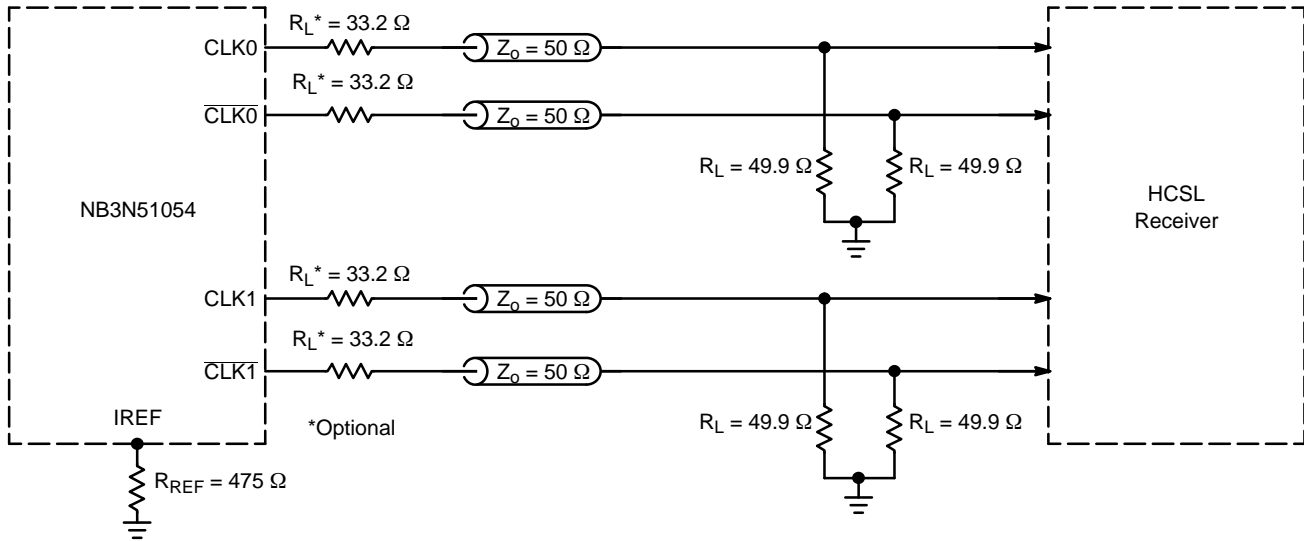
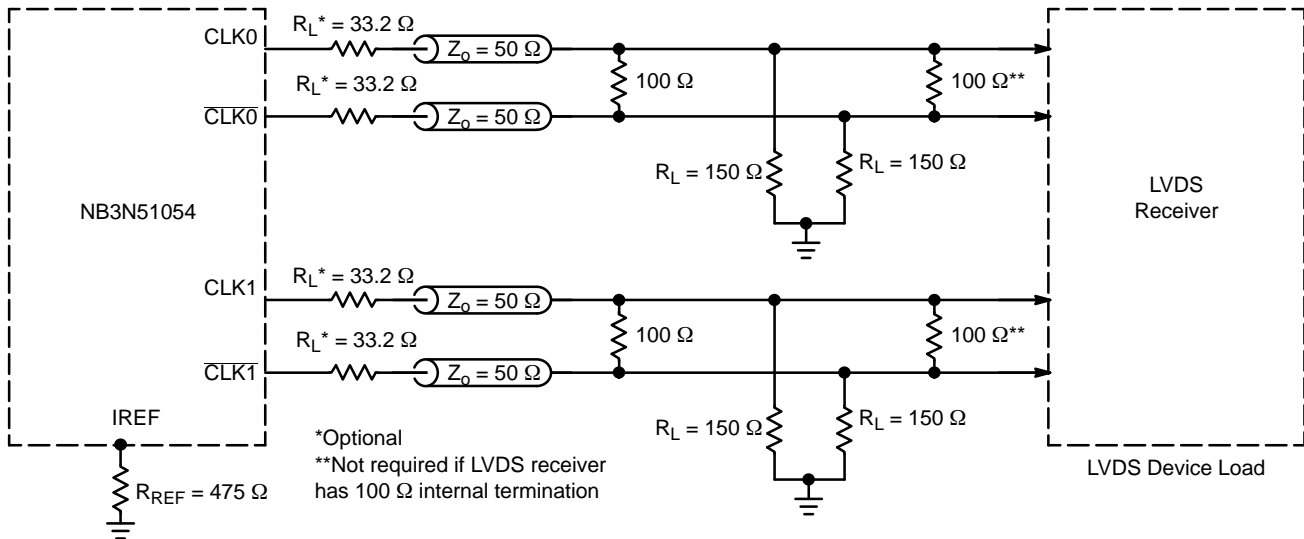

Figure 6. Typical Termination for HCSL Output Driver and Device Evaluation
Figure 7. Typical Termination for LVDS Device Load
- Measurement taken with outputs terminated with RS = 33.2 Ω, RL = 49.9 Ω, with test load capacitance of 2 pF and current biasing resistor set at RREF = 475 Ω. See Figure 6. Guaranteed by characterization.
9. Measurement taken from differential output on single-ended channel terminated with  $R_S = 33.2 \Omega$ ,  $R_L = 49.9 \Omega$ , with test load capacitance of 2 pF and current biasing resistor set at  $R_{REF} = 475 \Omega$ . See Figure 6. Guaranteed by characterization.
14. Measurement taken from differential output on single-ended channel terminated with RS = 33.2 Ω, RL = 49.9 Ω, with test load capacitance of 2 pF and current biasing resistor set at RREF = 475 Ω. See Figure 6. This parameter is guaranteed by characterization. Not tested in production
The outputs can be terminated to drive HCSL receiver (see Figure 6) or LVDS receiver (see Figure 7). HCSL output interface requires 49.9  $\Omega$  termination resistors to GND for generating the output levels. LVDS output interface may not